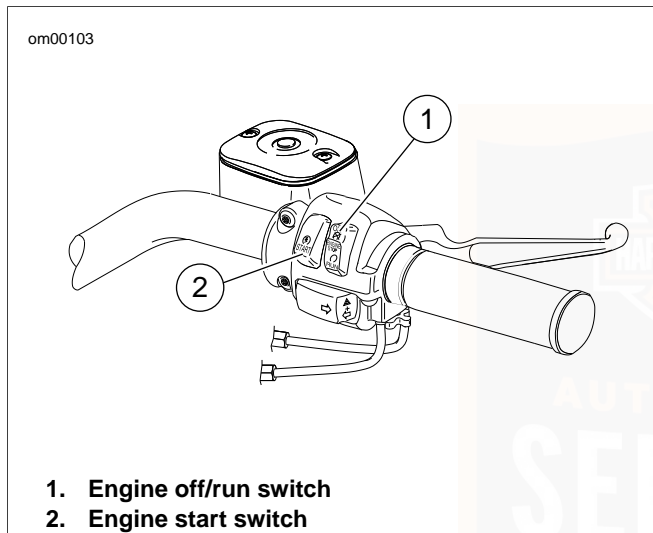

Figure 43. Right Handlebar Controls
2. See Figure 43. Turn the off/run switch to RUN position.